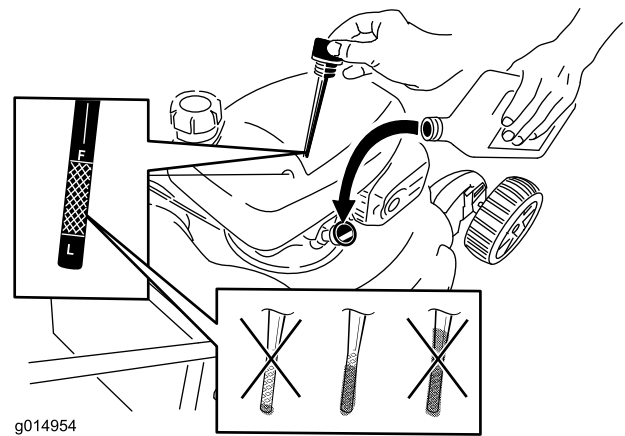

Figure 37
6. Remove the dipstick from the oil-fill tube (Figure 37).
12. Remove the dipstick and read the oil level; refer to Figure 37.
- If the oil level is too low, add a small amount of oil slowly to the oil-fill tube, and then repeat steps 10 through 12 until the oil level is correct as shown in Figure 37.